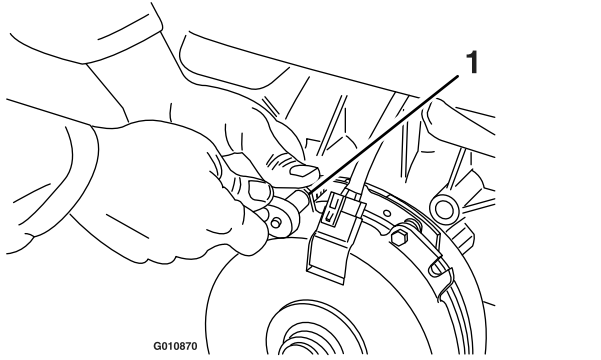

Figure 59
A. Loosen both brake mounting bolts 1/2 to 1 full turn as shown in Figure 59.